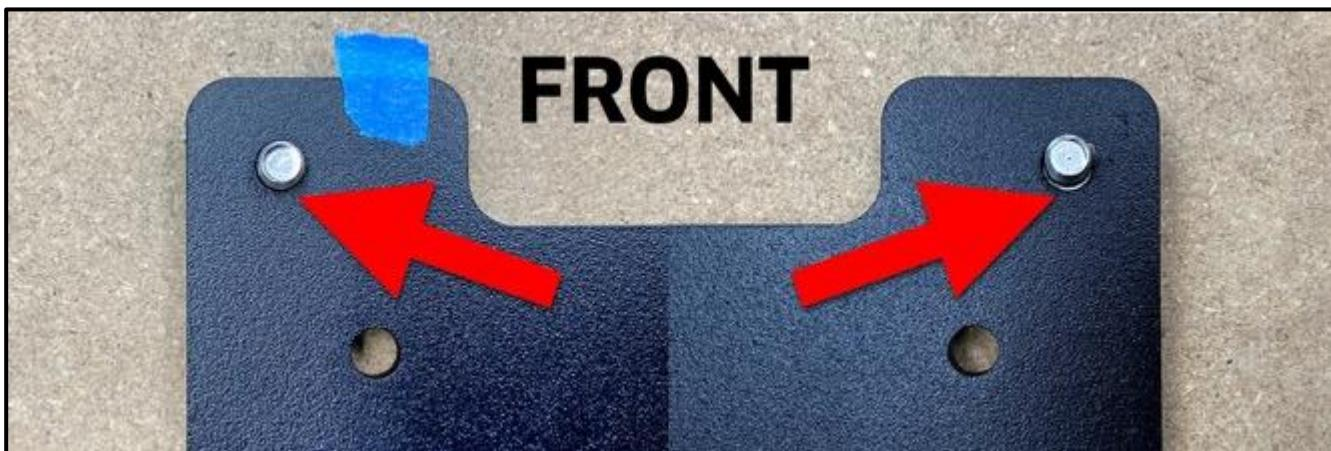

Figure 3-10
PRO TIP: An easy way to spot the smallest hole in the tramming plate is to closely compare the top two holes, as shown in *Figure 3-10*. Insert two of the tramming screws into the top two holes and look closely at the difference in space around each screw. The larger hole has space around the screw (right) and the smaller hole does not (left). Once you've determined the FRONT of the tramming plate, mark it with a piece of masking tape to ensure correct installation as shown in the figure.
2. Carefully inspect the top two holes shown in *Figure 3-10*.